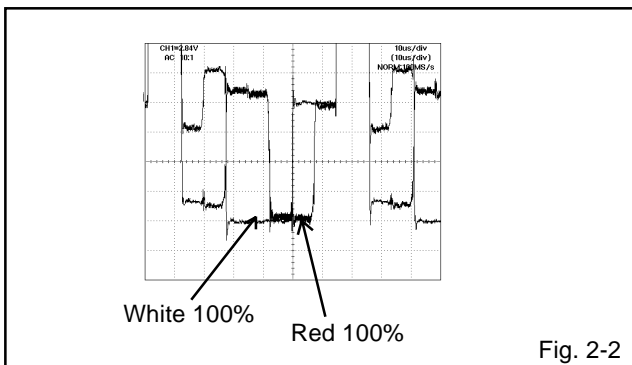

Fig. 2-2
8. Press the VOL. UP/DOWN button on the remote control until the red color level is adjusted to 100% \pm 10% of the white level. **(Refer to Fig. 2-2)**